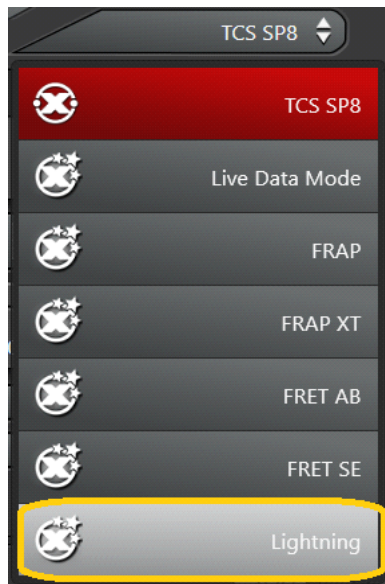

Fig.9
- Choose **Lightning** option from the drop down menu (Fig.9)